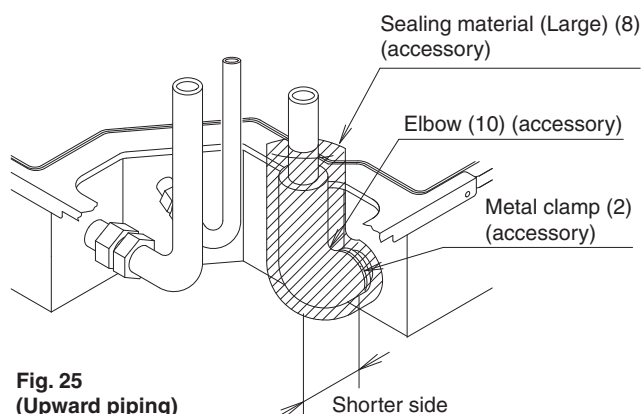

Fig. 25
(Refer to Fig. 25, 26, and 27)
(Refer to Fig. 25, 26, 27, and 31)
4. Insulate the metal clamp (2), the drain hose (1), the elbow (10) with the attached sealing material (Large) (8). **(Refer to Fig. 25, 26, 27, and 33)**